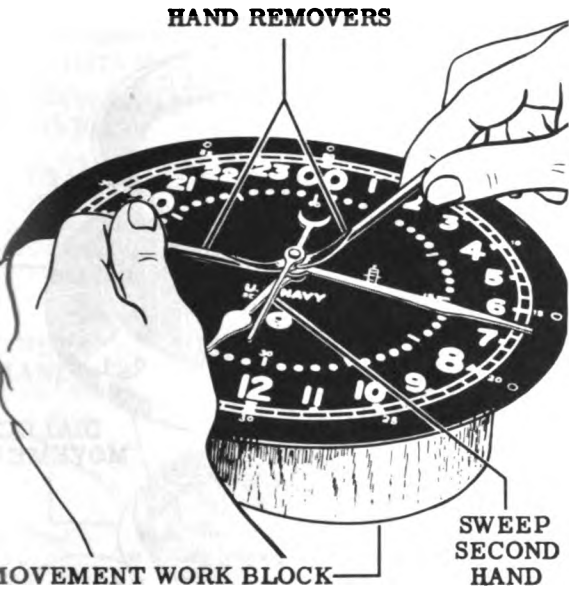

Figure 26
- Using the hand removers with felt pads (Tool No. 2A), remove the sweep second hand as shown in Fig. 26. The purpose of the felt pads on the heels of the hand removers is to put a cushion between the bearing surface of the hand removers and the dial to prevent the dial from being scratched.